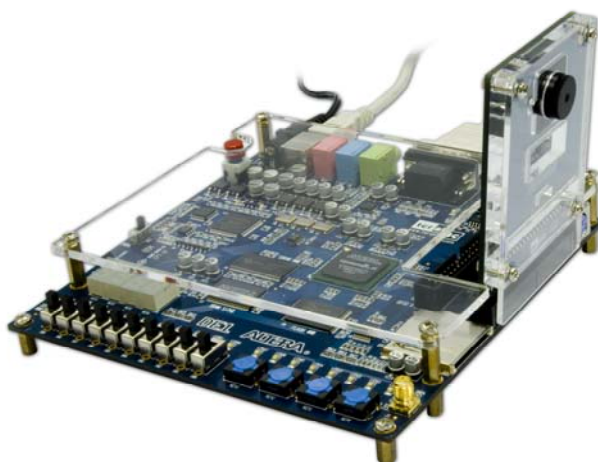

Figure 3.5. The Connection Setup for DE1 users
1. Ensure the connection is set correctly as shown in Figure 3.5. Make sure the D5M is connected to **JP2 (GPIO 1)** of the DE1 board.